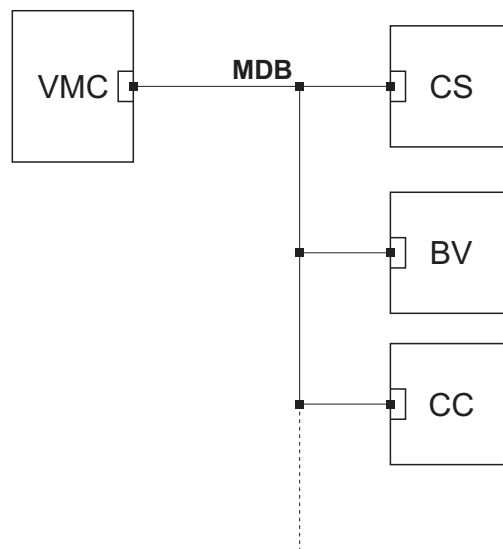

Fig. 3: Connection to a vending machine and peripheral devices (1)
The currenza clip reader (CS) is connected with the vending machine and further peripheral devices via a Y cable, see figure 3.